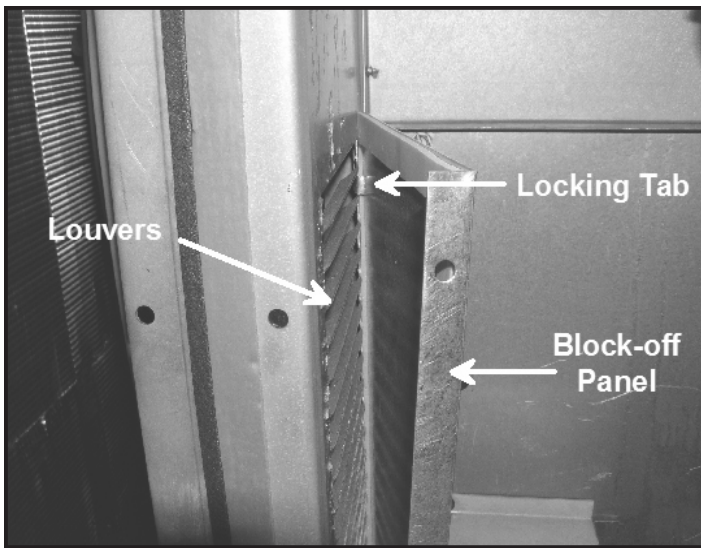

Figure 2
4. Remove (2) 5/16" hex head screws from bottom of heat exchanger door and remove door (save screws).
5. Locate the (2) louver banks in partition divider panel. (See Figure 2). These will be located just in front of the burners. Small and medium chassis will have (2) 7" x 4.5" banks while large chassis will have (2) 9" x 4.5" louver banks.
6. Locate louver block off plate assemblies in kit. Locate (2) self tapping screws from kit.
7. Remove backing from gasket and position louver block-off such that locking tabs on plate will engage into the next to top louver in the louver bank (See Figure 2). Engage locking tab and rotate plate toward divider panel. This will position holes in block-off plate in front of divider panel flange.